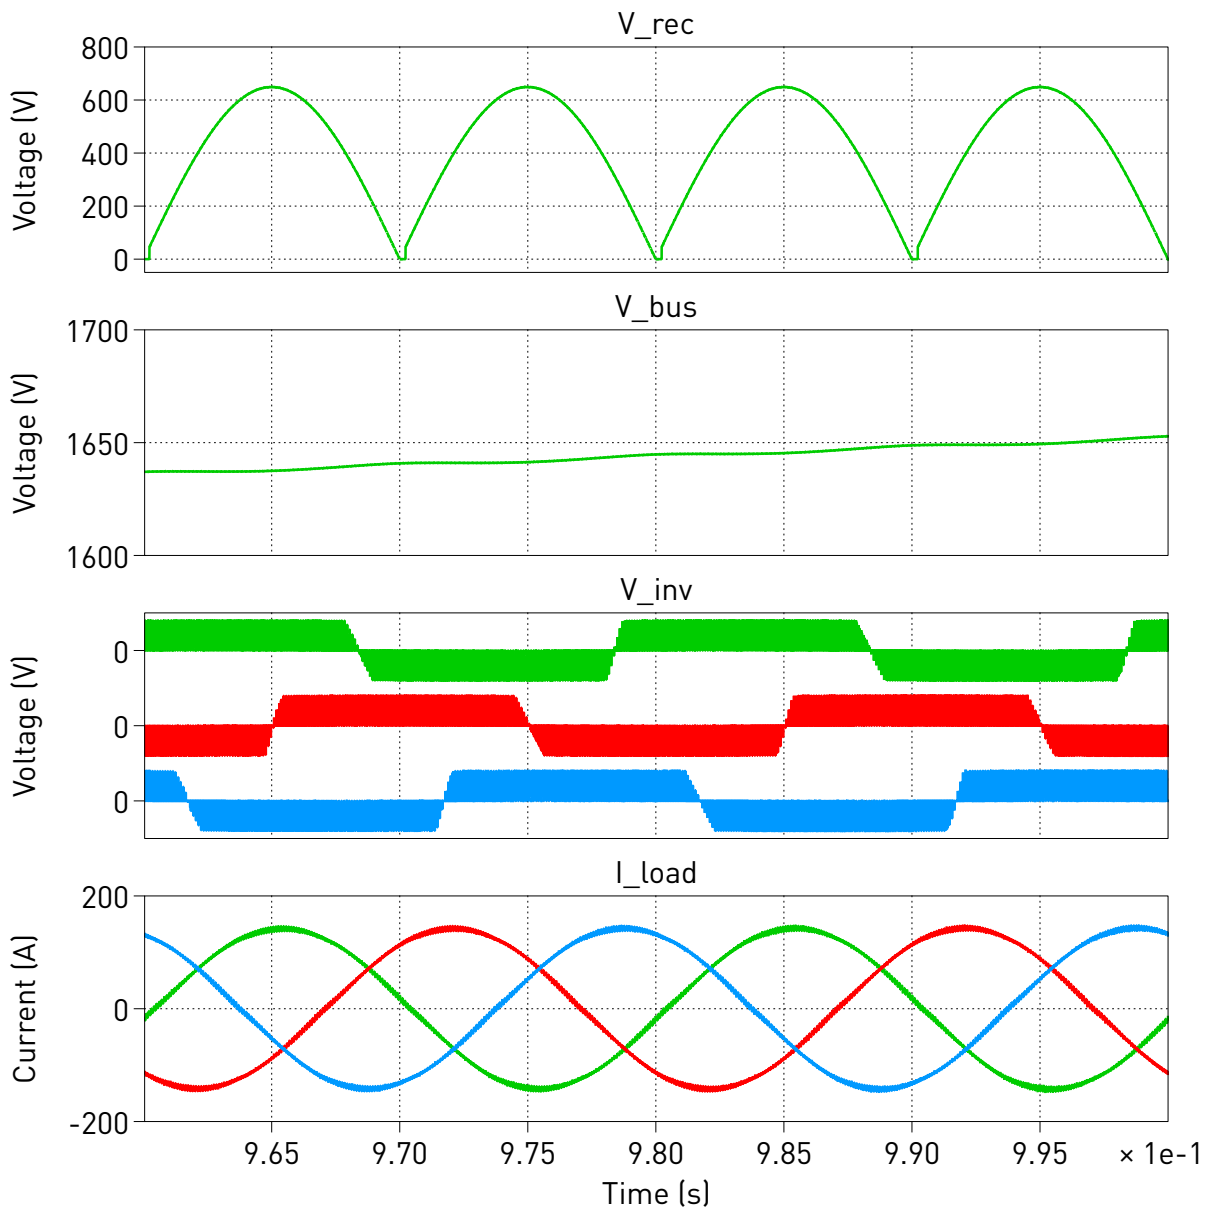

Figure 3: Simulation results of the rectifier and inverter system
- Run the simulation and observe the key waveforms in the Scope. They should look like in Fig. 3.
- 5 Run the PLECS simulation. Observe the Scope waveforms inside each subsystem. These should show similar results as the Scope in the unified system model in Fig. 3.
- ❓ Once both Boxes are running, click **Connect** under the **External Mode** tab for each Box, then click **Activate autotriggering** to observe the real-time waveforms in the Scope. They should show similar results to the ones shown in Fig. 3. Now what is the execution time for each Box?
- 2 For the slave “Inverter” Box, change the **Master for startup/clock** combo box to the **SFP A** option, then check the option **Use clock from master**. Proceed to build each model on each Box, enable external mode on both Boxes, and observe the waveforms again in the Scopes. They should show similar results to the ones shown in Fig. 3.
- 5 Enable external mode on both Boxes, and again check the running waveforms inside the Scopes. They should show similar results to the ones shown in Fig. 3.